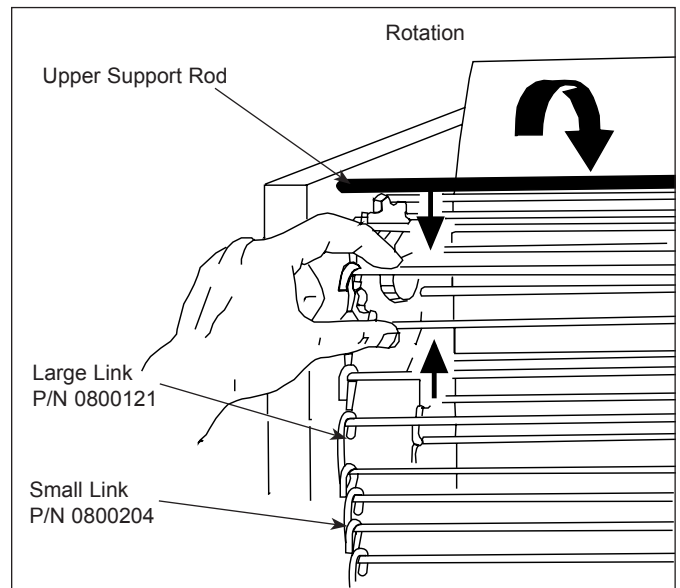

Figure 14. Removing Conveyor Chain Link
6. Disconnect the Conveyor Belt Chain by squeezing any two links together and unhooking both ends of one link (Figure 14).